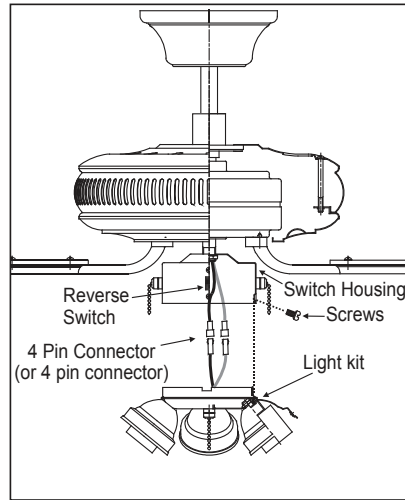

Figure 22
2. Carefully push all wires back into the switch housing. Attach the light kit fitter by aligning its keyhole slots with the three screw holes and the reverse switch on the side of the switch housing. Tighten the three screws securely to prevent the light kit from vibrating loose. (Fig. 22)